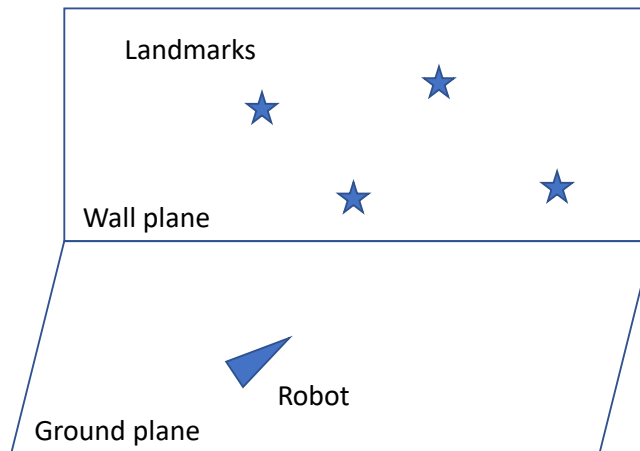

Figure 1: SLAM problem illustration.
A robot can move on a ground plane freely (see Figure 1). At any moment t , the robot can observe 4 unknown point landmarks on a 3D planar wall that is not necessarily perpendicular to the ground and far from the robot. The robot only has one sensor, which is an electronic distance-measuring device that can tell the distance from its current position to any landmark point on the wall with Gaussian error $N(0, 0.01m)$ in its returned distance readings (assuming the device always knows the correspondence no matter where the robot is). The robot's base coordinate frame at $t = 0$ defines the world coordinate frame. The goal of the robot is to localize itself in the world frame, and to measure distances between each pair of those unknown landmarks.
- a Describe the scene formally by a set of mathematical symbols. Include a figure to label your notations (you can label the screenshot of Figure 1 directly). (5 points).